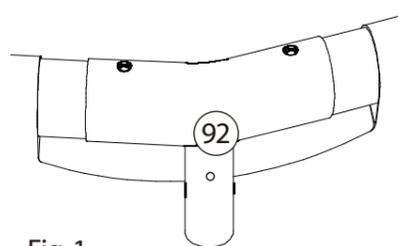

Fig. 1
- Locate the metal pipe and tee fittings for the frame section of the pool. The shorter pipe sections with the larger diameter and the pair of holes at both ends are the horizontal beams (91). The longer pipe sections with the smaller diameter and the spring pin (95) at one end are the vertical legs (94). Take the horizontal beams (91) and insert them into the pockets stitched along the top edge of the pool wall. Rotate it in the pocket so that the holes are on the top and bottom of the pipe protruding from each end of the pockets. Take one end of the pipe and insert it into a tee fitting aligning the holes with the holes in the horizontal beam. Do not install any of the pins (93) at this time. Continue around the pool in either direction installing all of the tee fittings onto the horizontal beams. See Fig. 1.